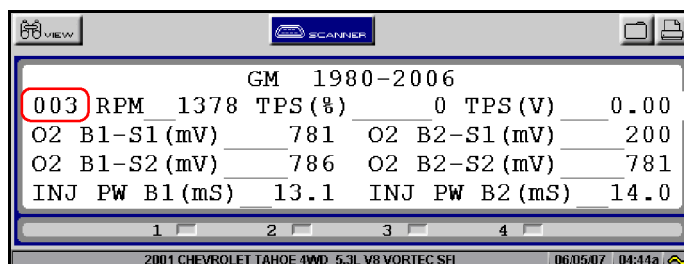

Figure 5-28 Sample Data display after triggering a movie
The movie starts and “ARM” changes to three zeros (000) on the display (Figure 5-28).